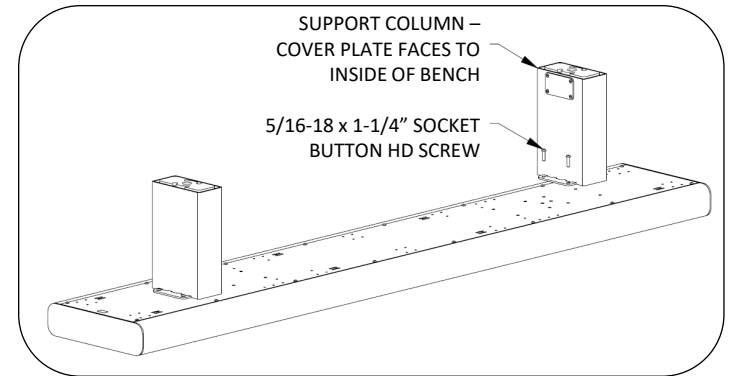
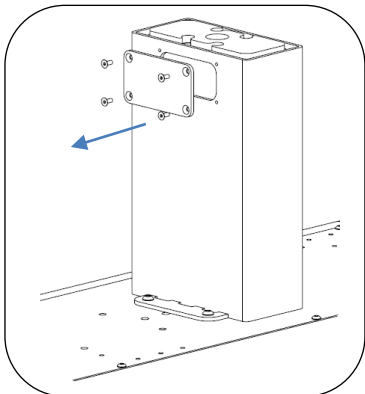

Fig. 2 – attach support to seat panel
Fig. 3 – remove cover plate
2. Attach each support column to seat using (4) 5/16-18 x 1-1/4" socket button head cap screws, see Fig. 2. Remove cover plates and set aside for later use, see Fig. 3